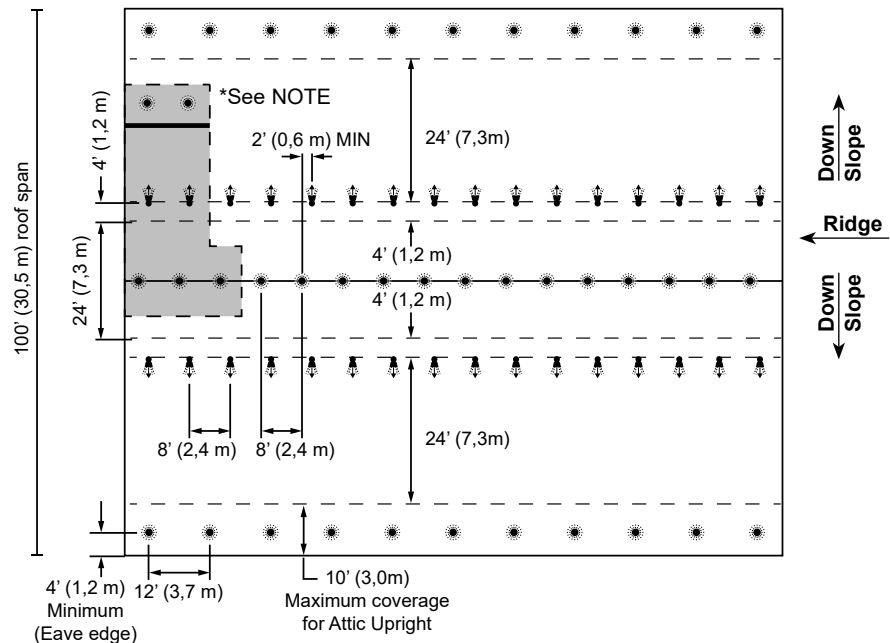

Figure 15B: Wet System Design for 100 ft (30,5 m) Roof Span with Obstruction
2. Figure 15B - Calculate the 5 most demanding sprinklers: